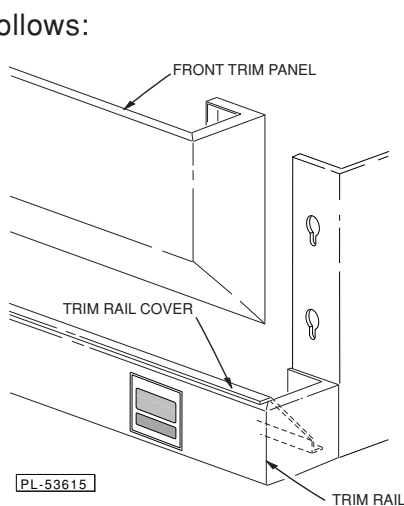
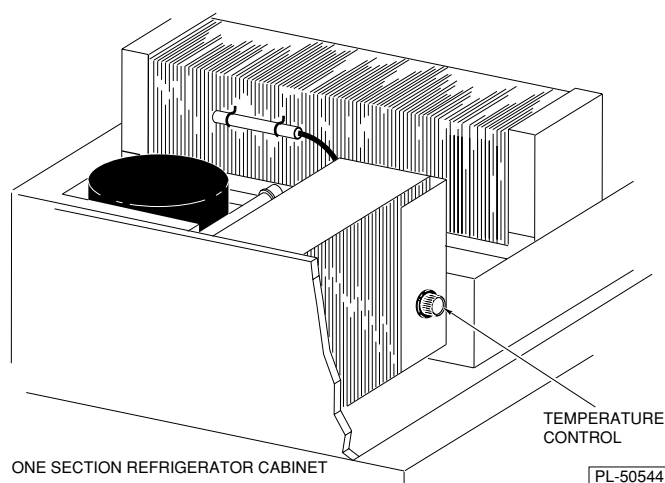

Fig. 2
Fig. 9
1. Lift up and remove the front trim panel (Fig. 2).
2. Remove the screws which secure the trim rail cover (Fig. 2), unplug the door switch lead wires and remove the screws which secure the trim rail (Fig. 2). Carefully lay the trim rail on top of the cabinet — avoid damaging or kinking the thermometer capillary tube.
TEMPERATURE CONTROL — The temperature control is set at the factory, but local conditions may necessitate slight adjustment. To adjust the temperature control, lift up and remove the front trim panel (see Fig. 2) and turn the control knob (Fig. 9 or 10) a small amount at a time. Turning the control knob in the direction of the arrow lowers the temperature. The control knob has a marked "OFF" position which interrupts power to the compressor and condenser fan only, not the entire roll-in.